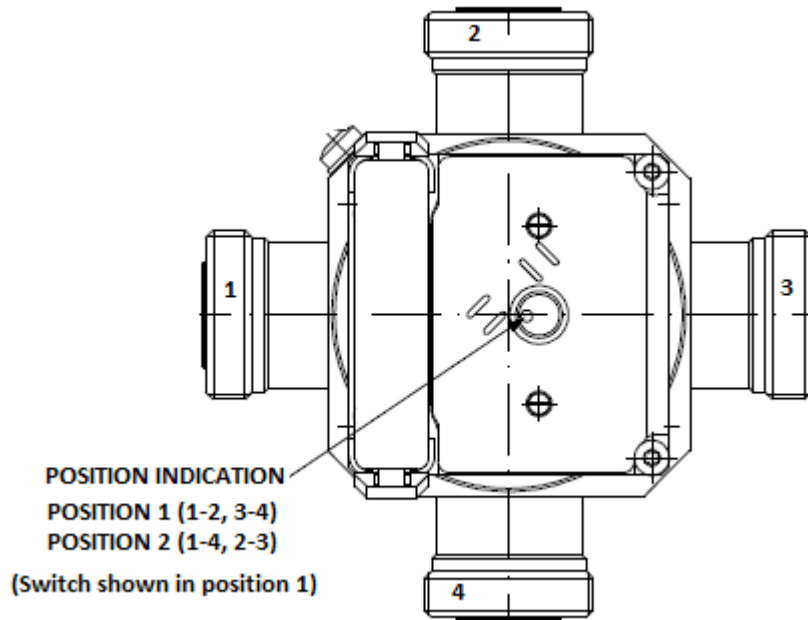

Figure 3-22: RF Coaxial Switch – Position Indicator
- (e) Using Figure 3-22 as a guide, note the positions of each RF coaxial switch. The dot indicator on each adjustment knob will indicate either position 1 or position 2.